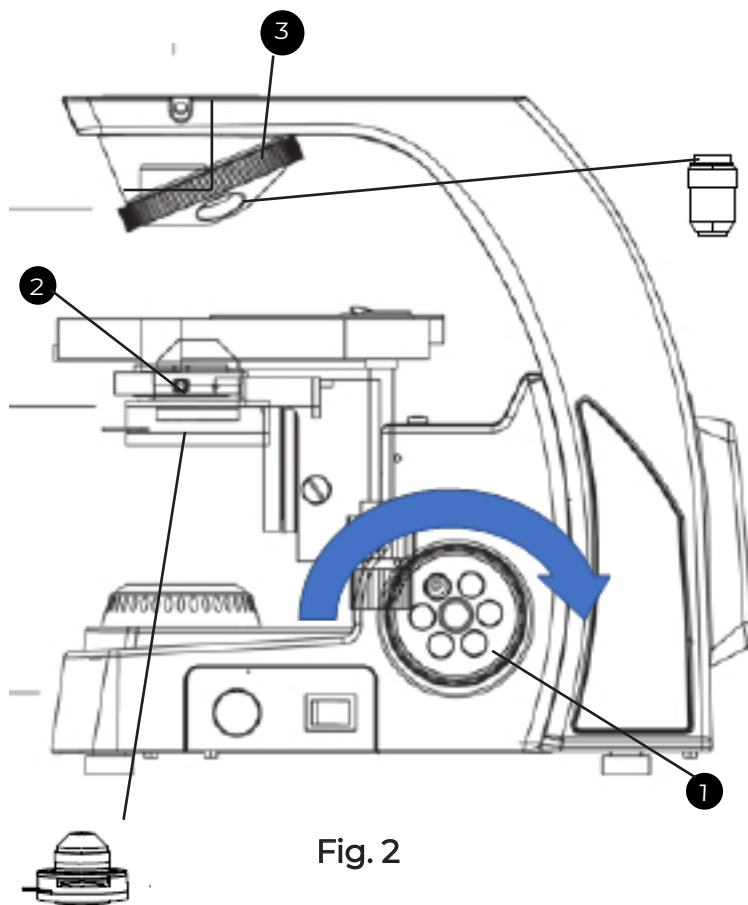

Fig. 2
1. Figure 2 shows condenser factory installed.
2. Rotate the coarse focusing knob **1** clockwise according to the direction shown in the figure, to raise the stage to the highest position (see Fig. 2).
1. Rotate the coarse focusing knob **1** to lower the stage to a suitable position (see Fig. 2).